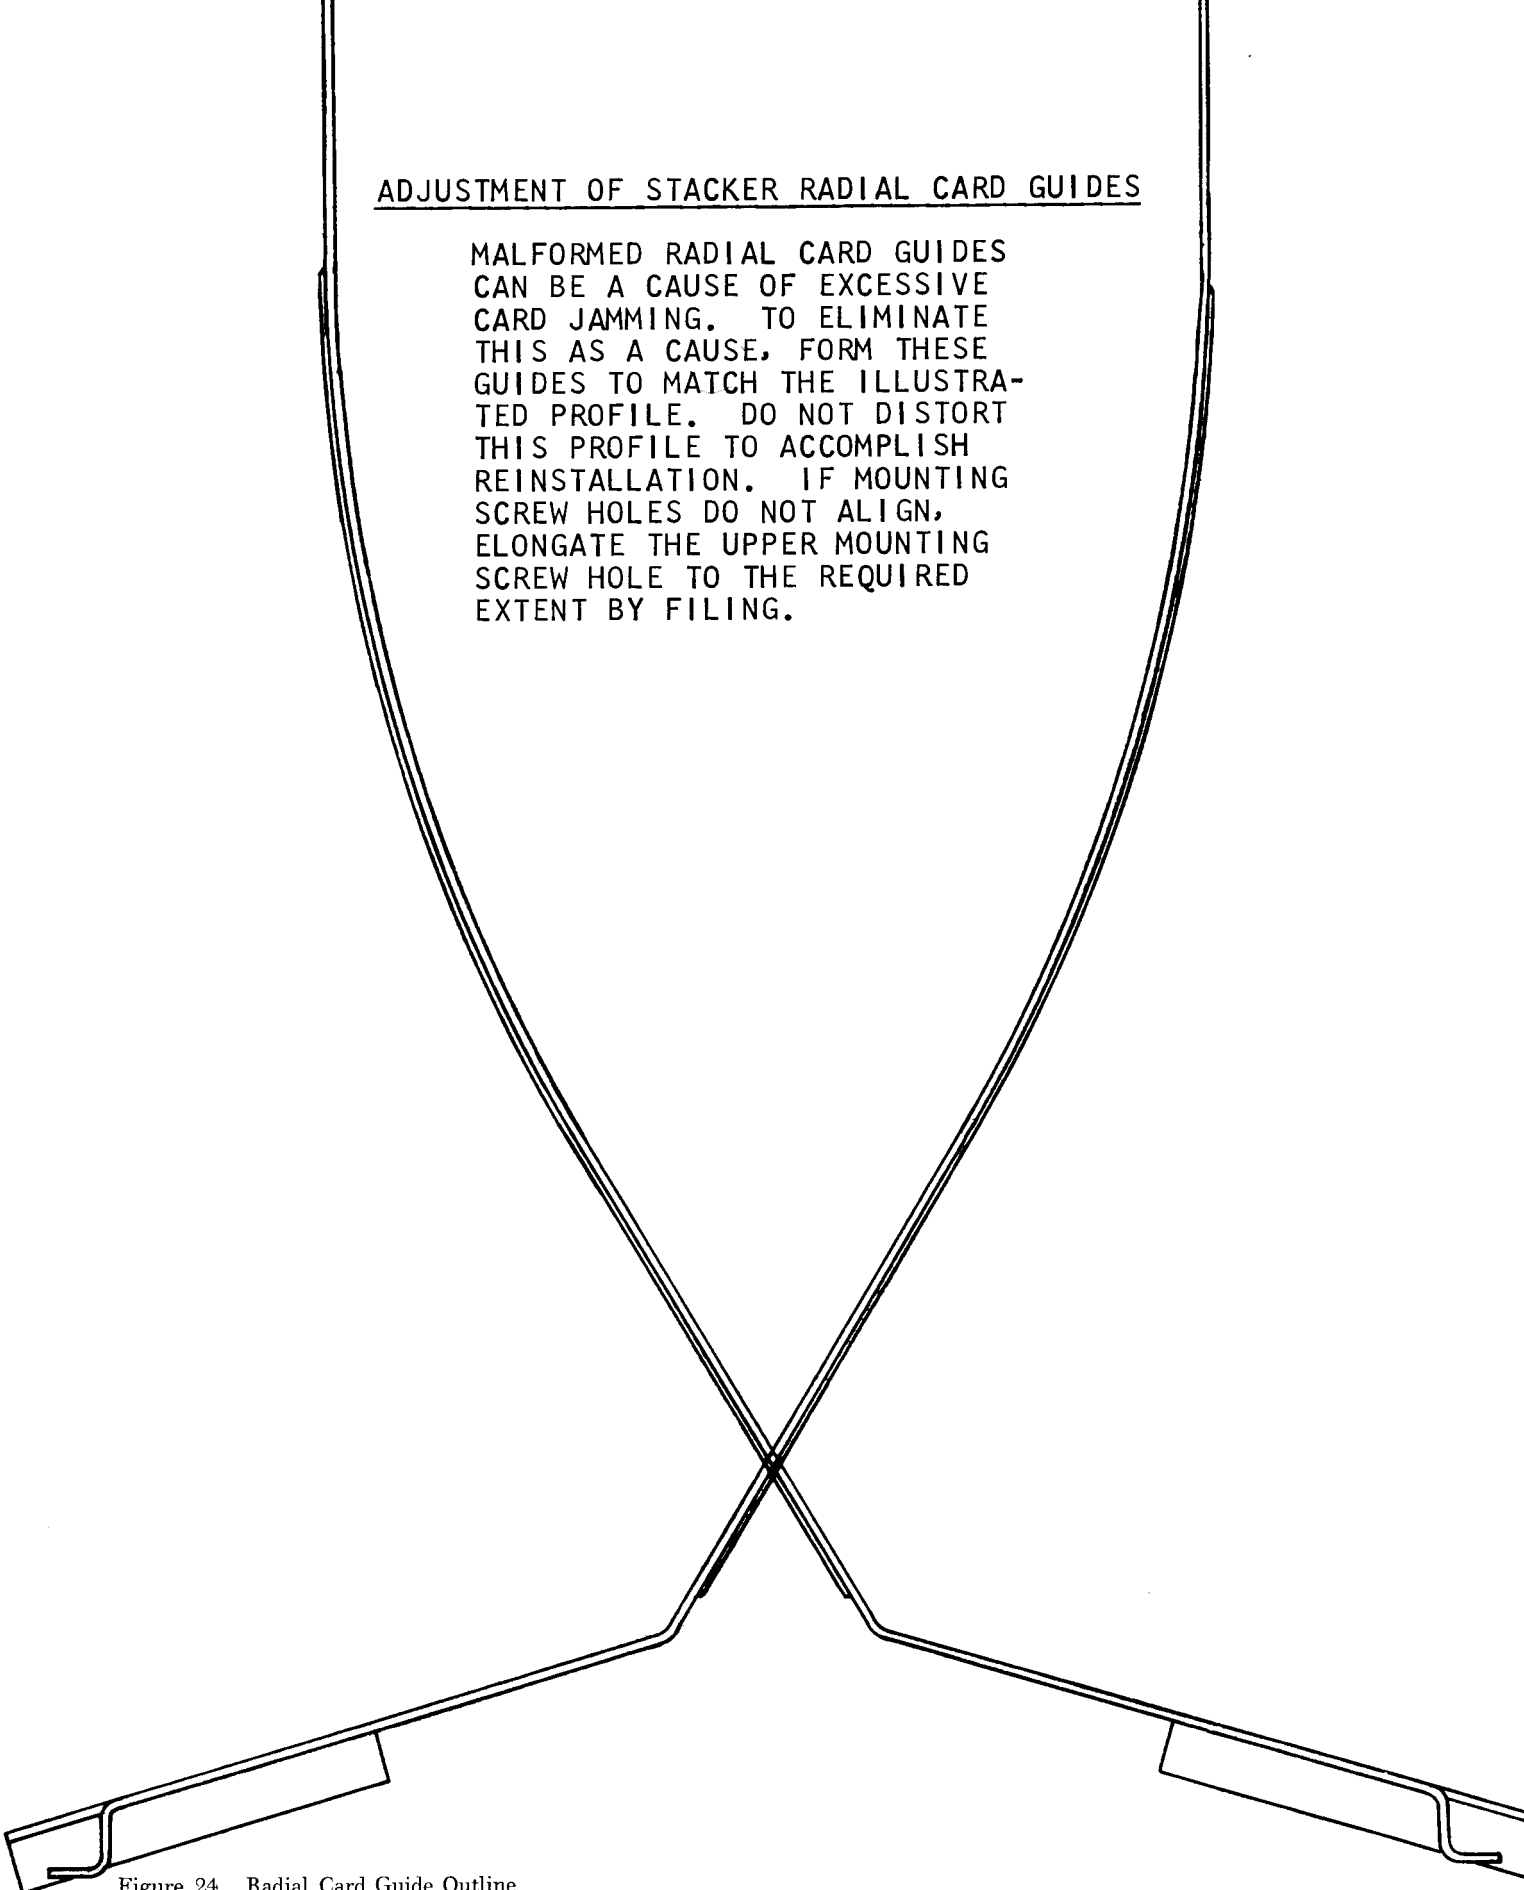

Figure 24. Radial Card Guide Outline
5. Form the radial guides as shown in Figure 24.